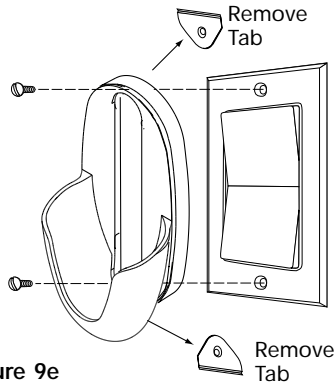

Figure 9e
1. Break off the two tabs by pushing outward. See Figure 9e.
3. Orient the remote cradle as shown in Figure 9e. Line up the two outer mounting holes with